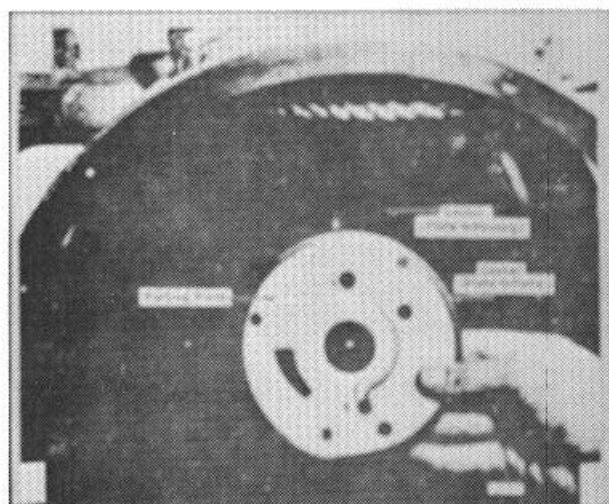

Figure 38.
3. Remove the pump porting plate. (Fig. 38) The plate may be stuck tight against the gasket. In this case rap the plate with a soft-faced hammer. Work carefully, as the plate is easily damaged and cannot be easily repaired.